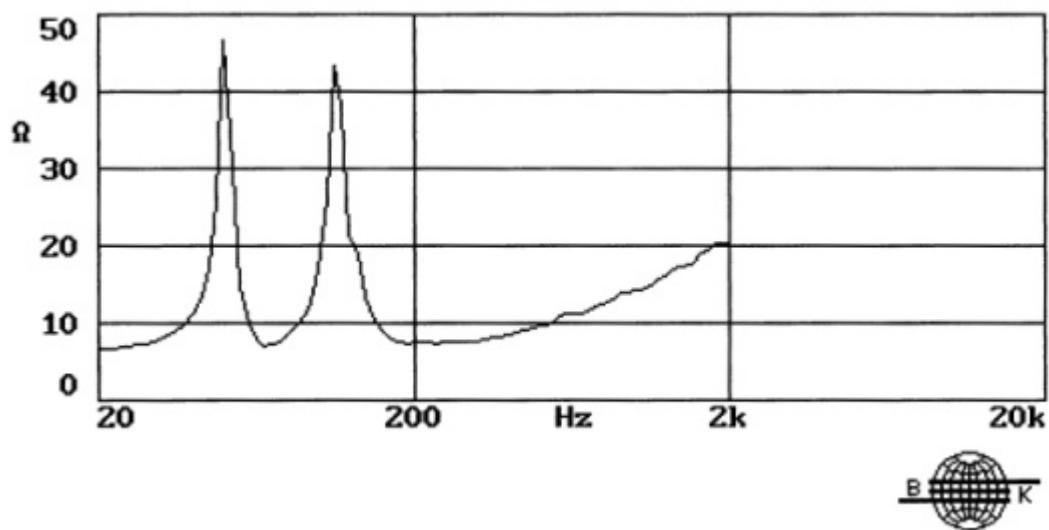

**Figure 10g**
The flown system is assembled as shown in *Figure 10g*. First, the SR18/10 side rail kit is screwed to the side of each iQ 18B and iQ 10 cabinet using the screws provided (1). The JK1 Jointing Kit is slotted between two SCB Beam Kits for botht he top and bottom (2). The combined SCB Beam Kits are placed above and below the speaker assemblies (3). The Lynch Pin is inserted into the holes of the side rail kit top and bottom (4) and the Pin folded to secure it in place (*Figure 10f*, page 12).